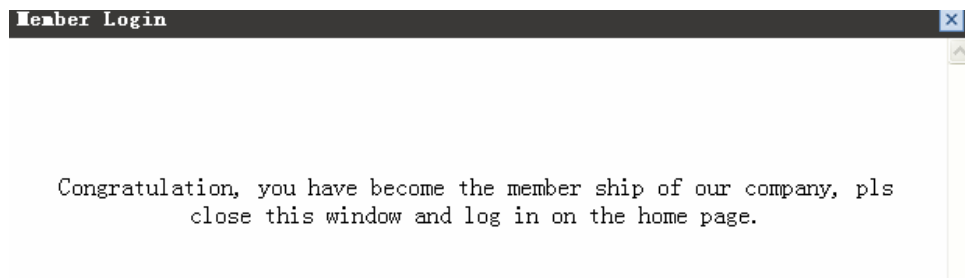

Figure-03
Step3: Press button“Continue”, after your registration, appears figure-03